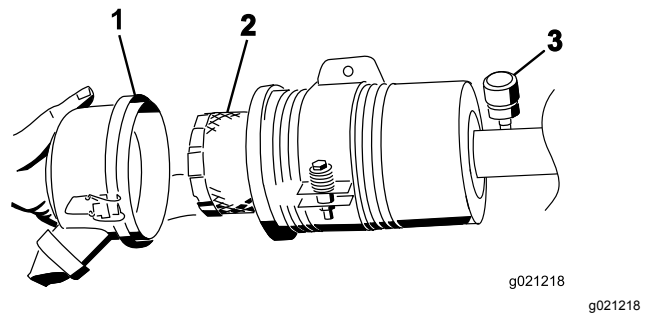

Figure 84
6. Remove and replace the filter (Figure 84).